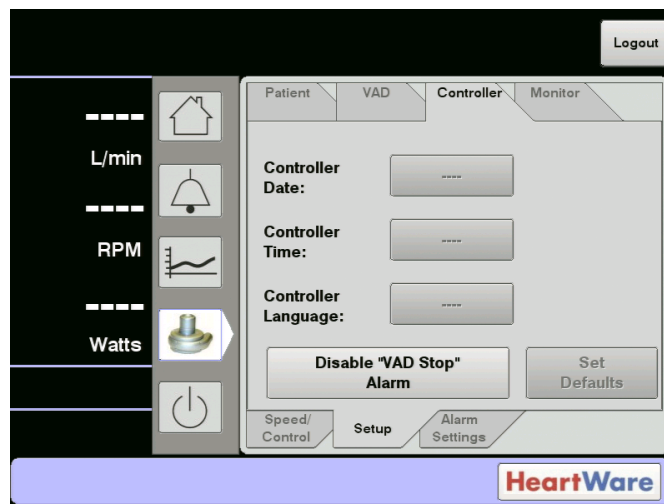

Figure 35: Disable “VAD Stop” Alarm
1. Press ‘Disable “VAD Stop” Alarm’ indicator on monitor (Figure 35)